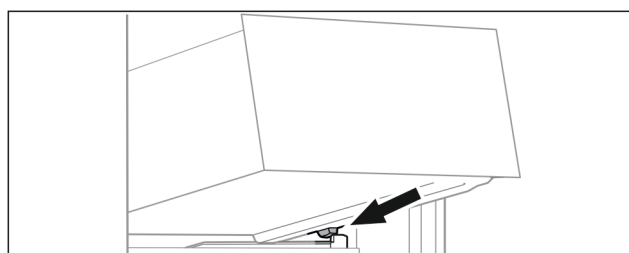

Fig. 79
- Place drawer at an angle behind the stoppers on the moulded rib. (see Fig. 79)